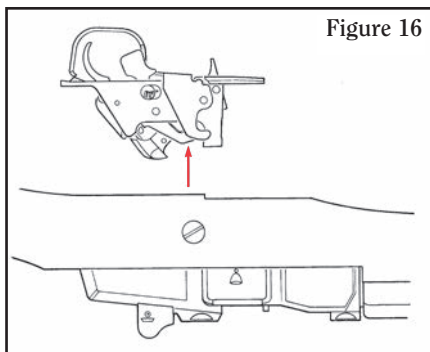

Figure 16
4. Remove trigger housing assembly by carefully pulling it upward (see Figure 16). Be careful not to damage stock when removing or replacing the trigger housing assembly.